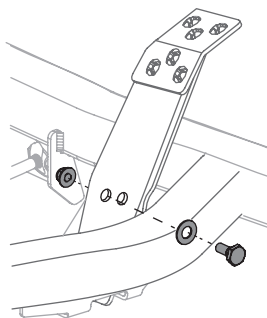

Figure 33
2. Remove the hex bolt, washer and hex nut near the center of the pedal assembly (Figure 33).